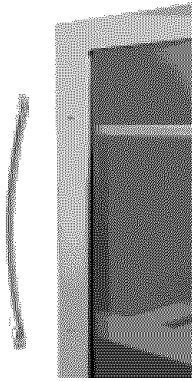

FIG 4a
6. Fit the door handle to the door as shown in FIG 4a,4b,4c